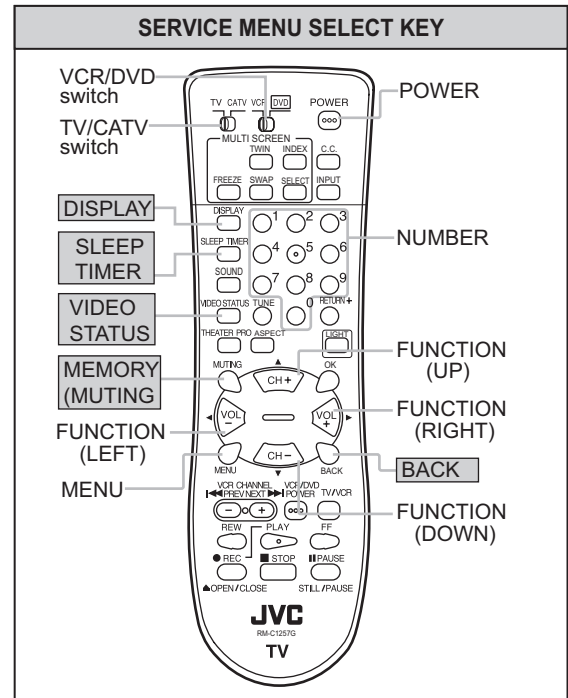

Fig.2
- a) Press **[SLEEP TIMER]** key and, while the indication of **SLEEP TIMER 0 MIN** is being displayed, press **[DISPLAY]** key and **[VIDEO STATUS]** key (Fig.2) simultaneously.